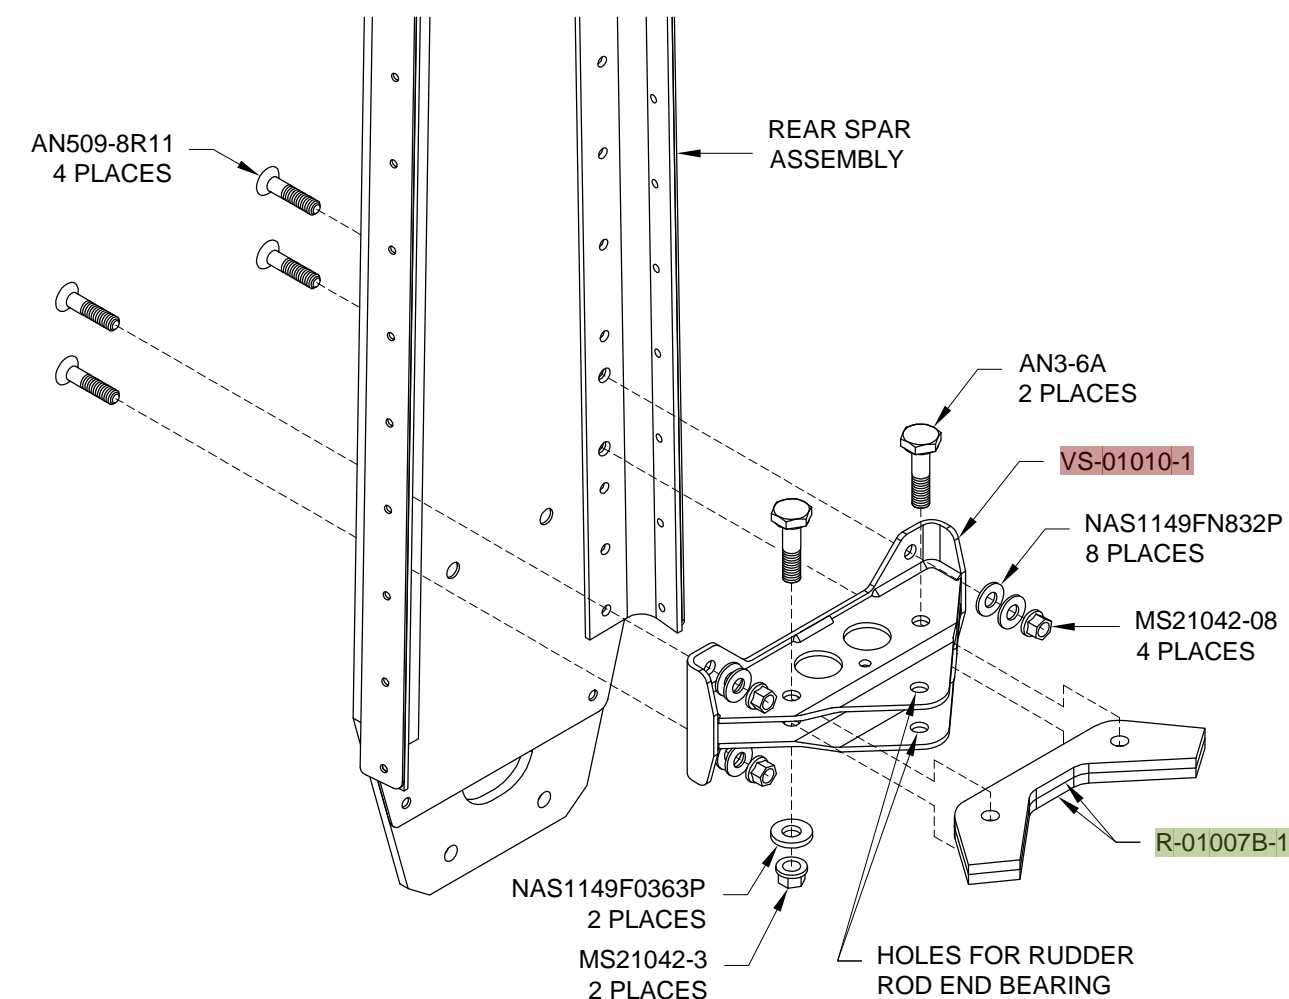

FIGURE 2: ATTACHING THE BOTTOM HINGE BRACKET AND RUDDER STOPS
Step 2: Use a #12 drill bit to clean the powder coating from the three sets of #12 holes in the VS-01010-1 Bottom Rudder Hinge Bracket. These holes are used to bolt on the R-01007B-1 Rudder Stops and the bottom rod end bearing of the rudder. See Figure 2.
Step 3: Heavily deburr (and straighten if necessary) the two R-01007B-1 Rudder Stops, then bolt them in the VS-01010-1 Bottom Rudder Hinge Bracket as shown in Figure 2.
Step 10: Attach the VS-01010-1 Bottom Rudder Hinge Bracket to the rear spar as shown on Page 6-5, Figure 2.